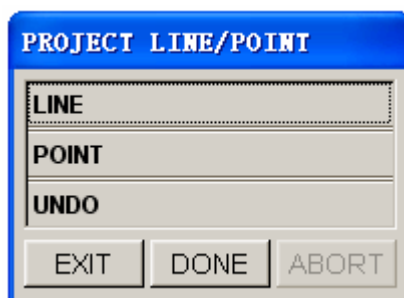

Figure 5.1.17 Project Line
- PROJECT LINE/POINT dialog box as illustrated in Figure 5.1.17 is displayed.